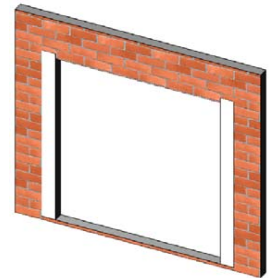

Figure 20:
2. At each jamb, embed the flashing paper into the sealant onto mounting flange and fasten into place. The flashing paper should be cut sufficiently long enough to extend at least 3 in. past the weep-screed flashing and at least 6 inches above the head of the product (Figure 20).